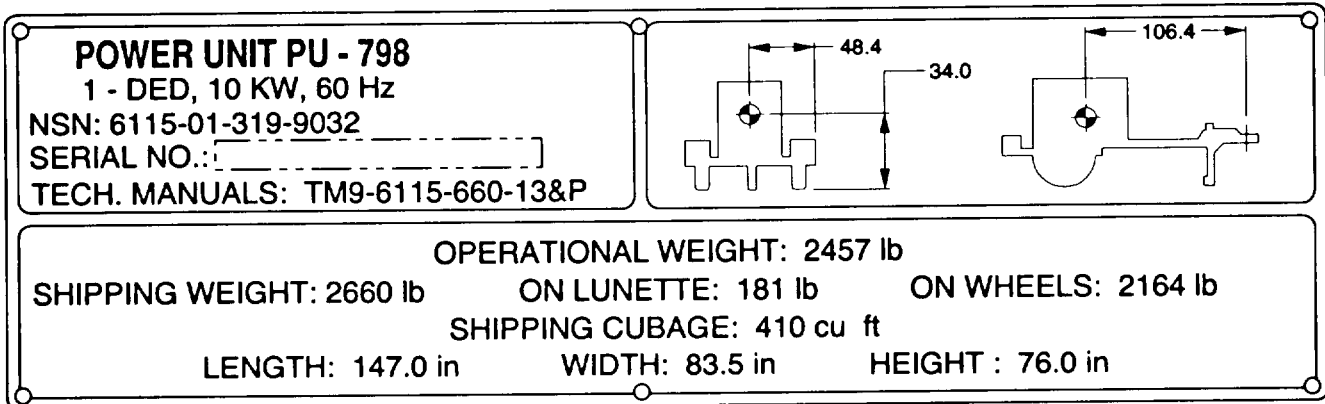

Figure 2-12. PU-798 Identification/Transportation Data Plate.
**2-6.3 PU-798 Identification/Transportation Data Plate.** Refer to figure 2-12. This plate is located on rear of curbside fender.